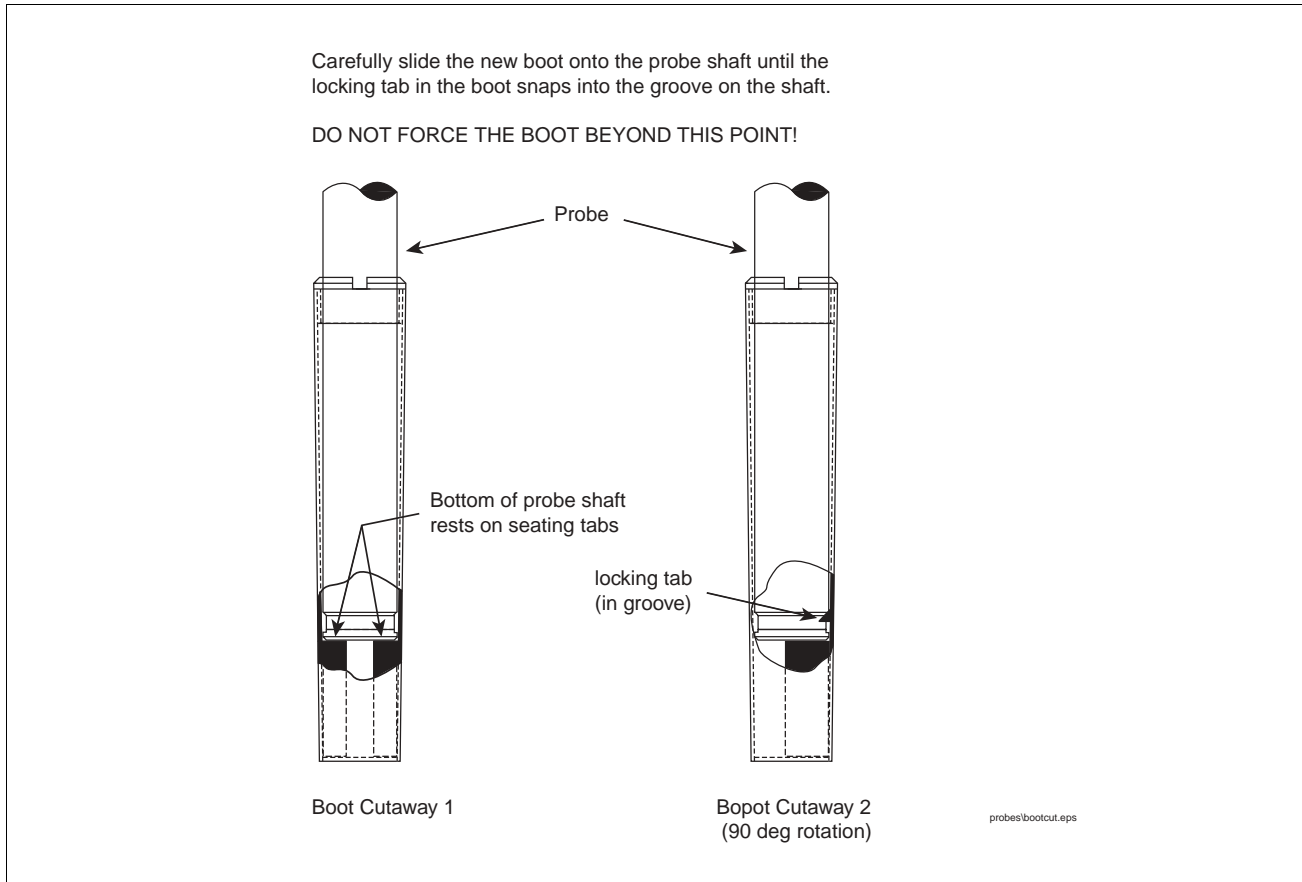

Figure 4. Correctly installing boot
**IMPORTANT!** Carefully slide the new boot onto the probe shaft until the locking tab in the boot snaps into the groove on the shaft (see Figure 4). **DO NOT FORCE THE BOOT BEYOND THIS POINT!**